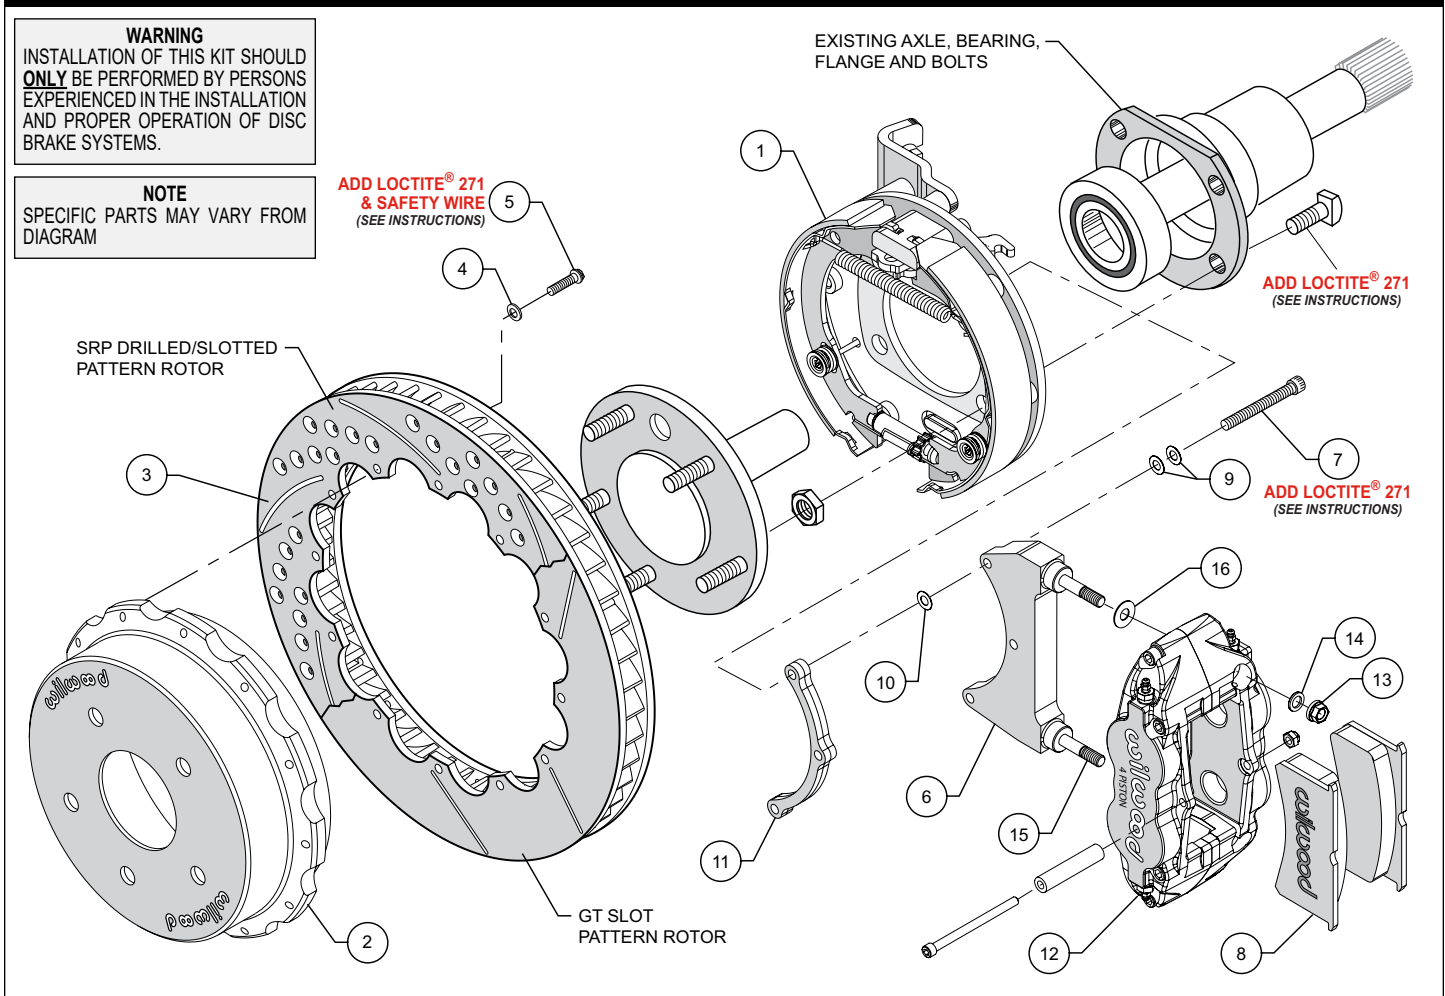
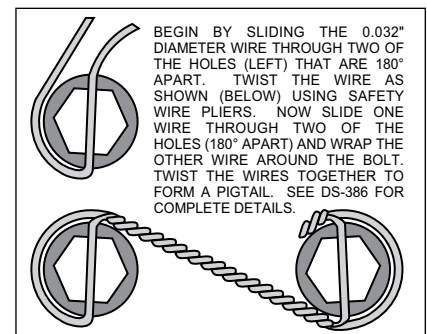

Figure 1. Typical Installation Configuration
Figure 4. Safety Wire Diagram
**NOTE:** Numbers in parenthesis refer to the parts list and Figure 1 on the preceding pages.
- Slide the bracket kit assembly (1) onto the housing flange and then insert the axle assembly through the center hole of the bracket kit assembly (1). Secure using the stock Original Equipment Manufacturer (OEM) bolts and nuts. Stock OEM hex nuts that retain the bracket kit assembly (1) should be on the wheel side of the bracket. Apply red *Loctite*® 271 to the stock OEM bolt threads and torque to OEM specifications. Make sure the bracket kit assembly (1) brake pads are FACING OUTWARD TOWARDS THE WHEEL.
- With the larger I.D. side of the rotor (3) facing away from the hat (2), bolt rotor (3) to hat (2) through the backside of the rotor using washers (4) and bolts (5). Apply red *Loctite*® 271 to the bolt threads and torque to 155 **in-lb** using a criss-cross pattern. For an added measure of security, the bolts may be safety wired using standard 0.032 inch diameter stainless steel safety wire as shown in Figure 4. Please refer to Wilwood's data sheet DS-386 (available at [www.wilwood.com/Pdf/DataSheets/ds386.pdf](http://www.wilwood.com/Pdf/DataSheets/ds386.pdf)) for complete safety wire installation instructions.
- NOTE:** Please reference the caution statement at the beginning of the assembly instructions. The caliper mounting bracket assembly (6) should be installed first with clean, dry threads on the mounting bolts (7). Install the bracket from the rear side of the bracket kit assembly (1) by sliding bolt (7) through two flat washers (9), bracket (6), shim washer (10) and finally through the spacer (11), see Figure 1. **NOTE:** End of bolt should not exceed inside face of insert. The bracket must tighten squarely against the back side of the bracket kit assembly (1). Inspect for interference from casting irregularities, machining ridges, burrs, etc. Use one thin shim (10) between the bracket (6) and spacer (11) during initial trial fitting.
- Install one washer (16) over each pre-installed stud (15) on the radial mount bracket (6). Slide the caliper (12) in place over the studs and rotor, then install the washer (14) and lock nut (13) to hold the caliper in place. Snug the lock nuts (13) and check that the rotor (3) is centered in the caliper (12). Add or subtract .015" shims (10) as necessary between the caliper mounting bracket (6) and the spacer (11) to center the caliper (12).
- Remove the caliper center bridge pad retainer bolt, nut, and tube from the caliper. Slide the brake pads (8) into place. They should install easily without interference. Check that the outside radius of the brake pad is aligned with the outside diameter radius of the rotor face. Add or subtract shims (16) between the caliper (12) and mount bracket (6) to gain the proper alignment. Reinstall the center bridge pad retainer tube, bolt, and locknut. The locknut should be snug without play in the bolt or tube. Be cautious not to over tighten.
- Adjust the parking brake shoes outward (using a drum shoe adjustment tool available at your local auto parts store) while spinning the hat (2) until a slight drag is felt against the hat/drum. Remove the lug nuts that were holding the hat/rotor in place. Install the wheel and lug nuts. Check to see that the wheel rotates freely without interference.
- Once all clearances have been checked, remove the wheel, caliper, hat/rotor from the bracket kit assembly (1). Secure the caliper mounting bracket (6) to the bracket kit assembly (1) using red *Loctite*® 271. Torque bolts (7) to 180 **in-lb**. Reinstall the hat/rotor assembly and again use lug nuts to hold it in place. Reinstall the caliper and torque the caliper nuts (13) to 30 ft-lb.
- NOTE:** Clevis and cable kits which attach to the parking brake assembly are not included in the Wilwood parking brake kit. Wilwood offers a generic style parking brake cable kit, P/N 330-9371 for this application which can be ordered separately from your local Wilwood dealer or by calling Wilwood customer service at (805) 388-1188.